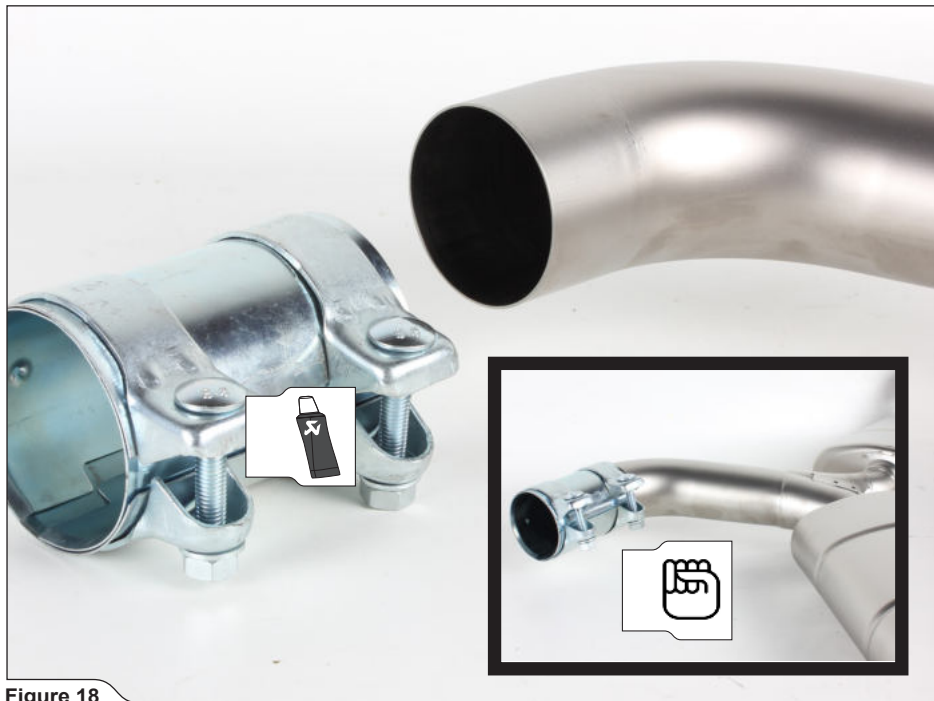

Figure 18
8. Correctly orient and slide the double clamp from installation kit onto the muffler's inlet pipe (Figure 18).